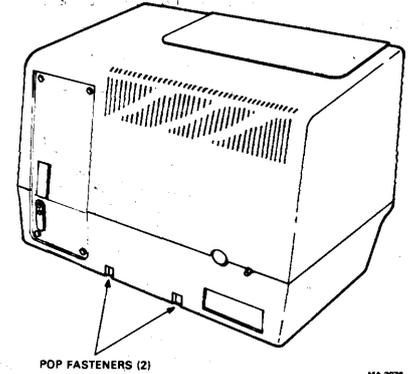

Figure 5-5b
4. With a small blade-type screwdriver release the two rear pop fasteners located on the lower-rear edge of the bottom cover (Figure 5-5b).